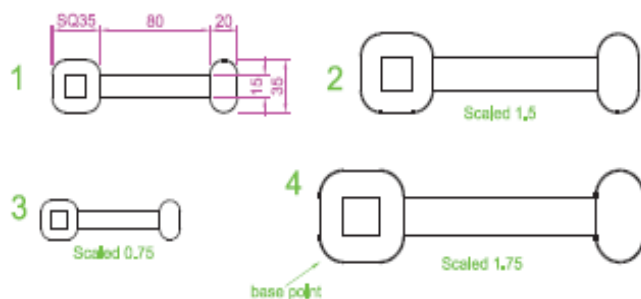

Fig. 5.29 Examples – Scale
Examples – **Scale** (Fig. 5.29)
1. Using the **Rectangle** and Polyline tools, construct drawing 1 of Fig. 5.29 . The **Rectangle** filets are R10. The line width of all parts is 1 . Copy the drawing 3 times to give drawings 2 ,3 and 4 .
The results are shown in Fig. 5.29 .